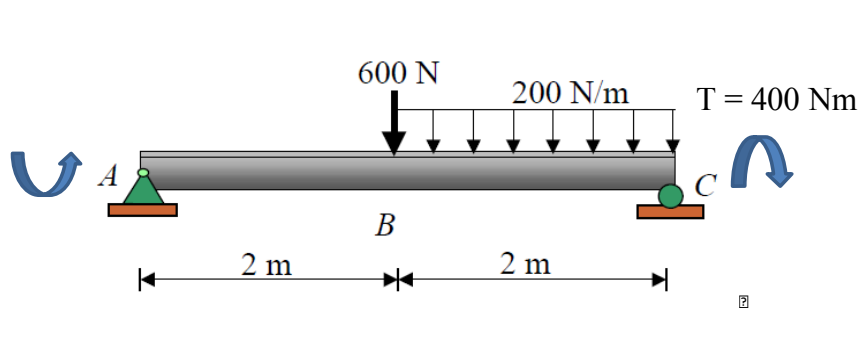

Figure Q4
4. The beam shown in Figure Q4 is subjected to a central point load of 600 N, a uniformly distributed load of 200 N/m on the right half of the beam and a torque of 400 Nm. The diameter of the circular cross section is 200mm.